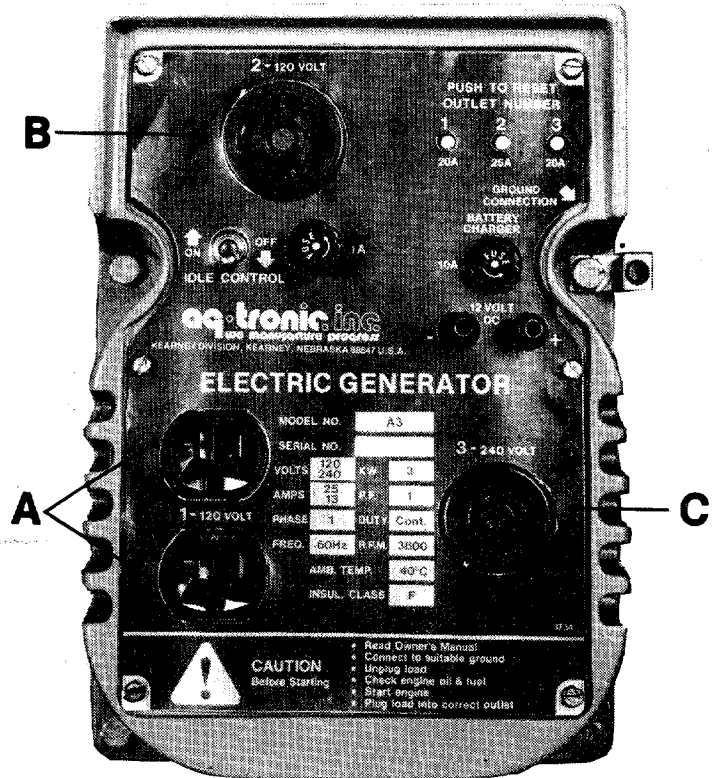
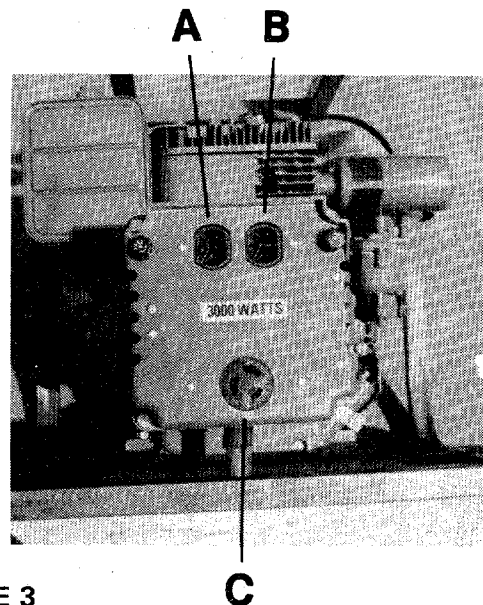

FIGURE 2
FIGURE 3
**Dual Voltage Units.** See Figure 2 and Figure 3. These models are equipped with two 120 volt circuits, (A and B). These two 120 volt circuits are combined to form the 240 volt circuit, (C).